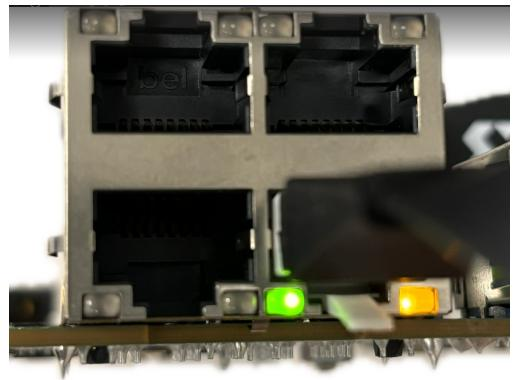

Figure 2: Port to be used for the Ethernet Boot Recovery Tool access on the KR260 board.
- In the case of the KR260, the bottom right port should be used, as seen in the figure 2 below.